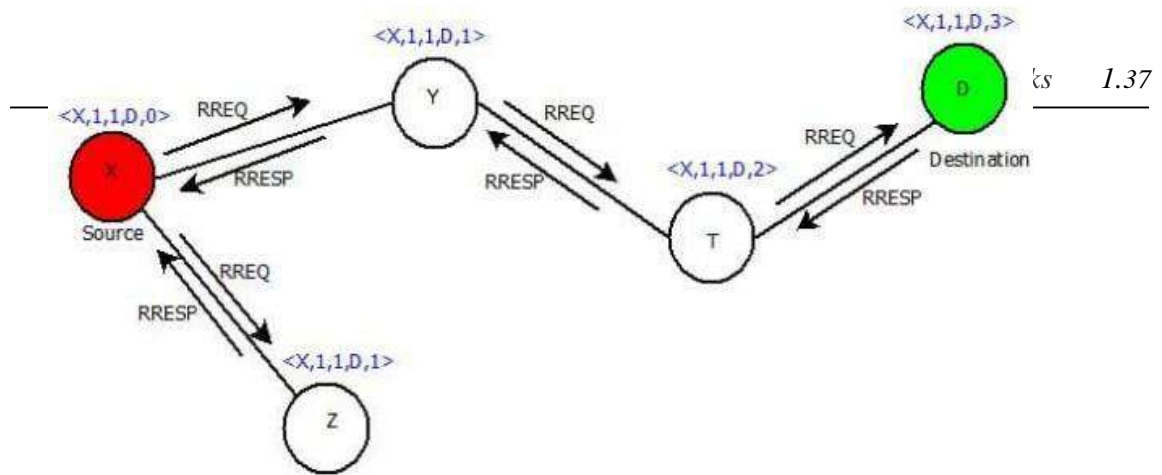

Figure 1.14 Example of AODV Network
- The IP addresses of source node “X” and destination node “D” is already known. Below mentioned steps will let you know how AODV works and concept of Route Request (RREQ) and Route Response (RRESP) is used.(Figure 1.14)